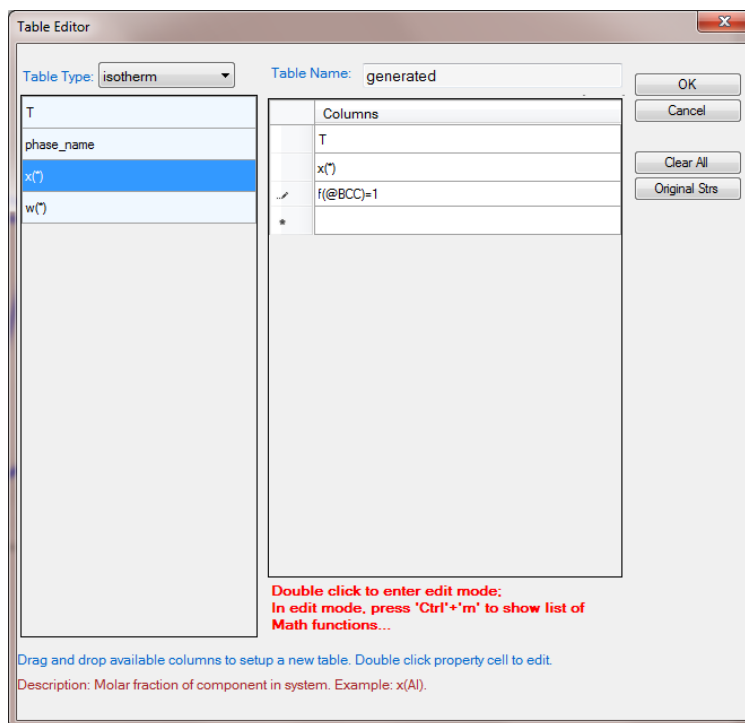

Figure 1.17.5: Add a new Table to get the isothermal lines just for the BCC phase
- Add a new Table as shown in Figure 1.17.5 to get the isothermal lines just for the BCC phase, notice that the Table Type must be “isotherm”;